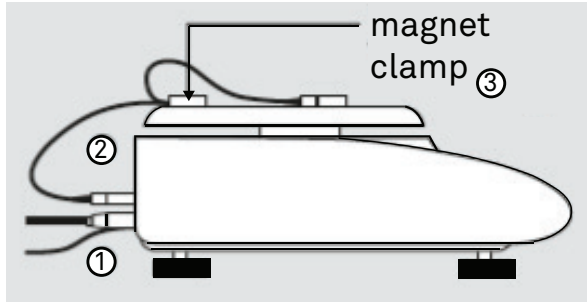

Figure 51 Magnet cable
1. Connect the magnet cables to the balances as shown in Figure 51.